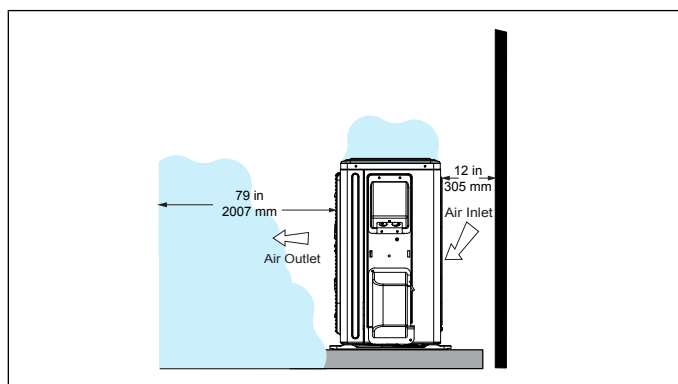

Figure 17. Outdoor Unit Air Flow Obstructed by Snow
- In heavy snow areas, do not place the unit where drifting will occur as illustrated in “Figure 17. Outdoor Unit Air Flow Obstructed by Snow” on page 11